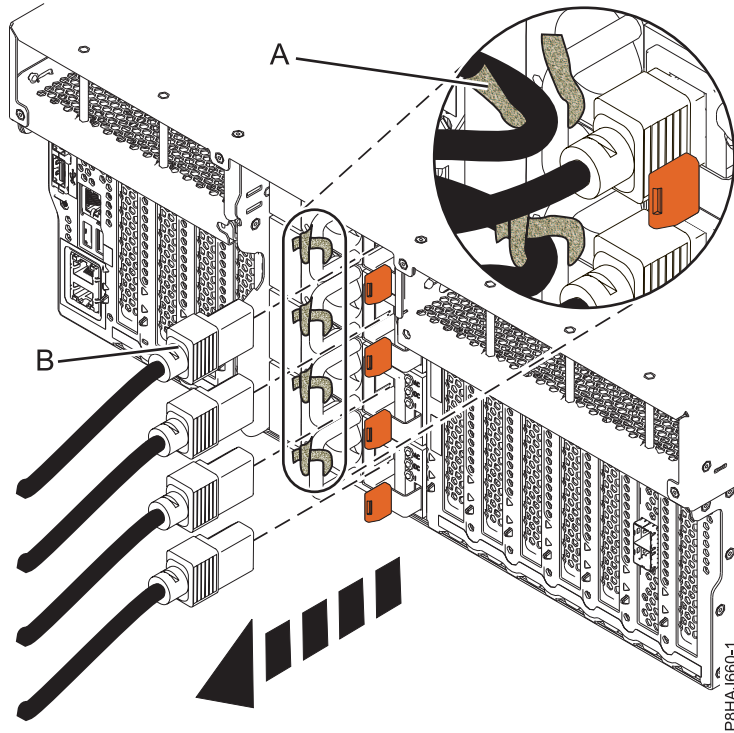
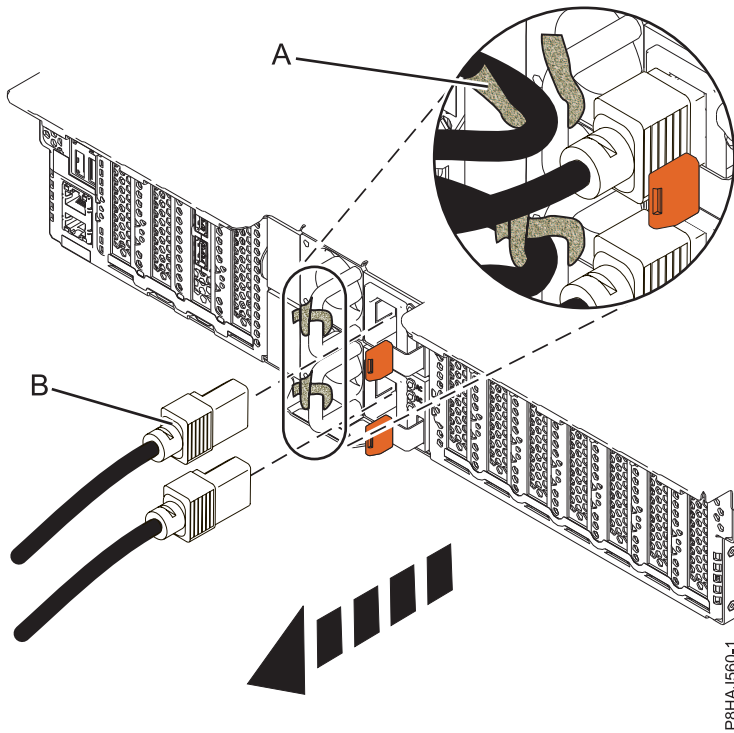
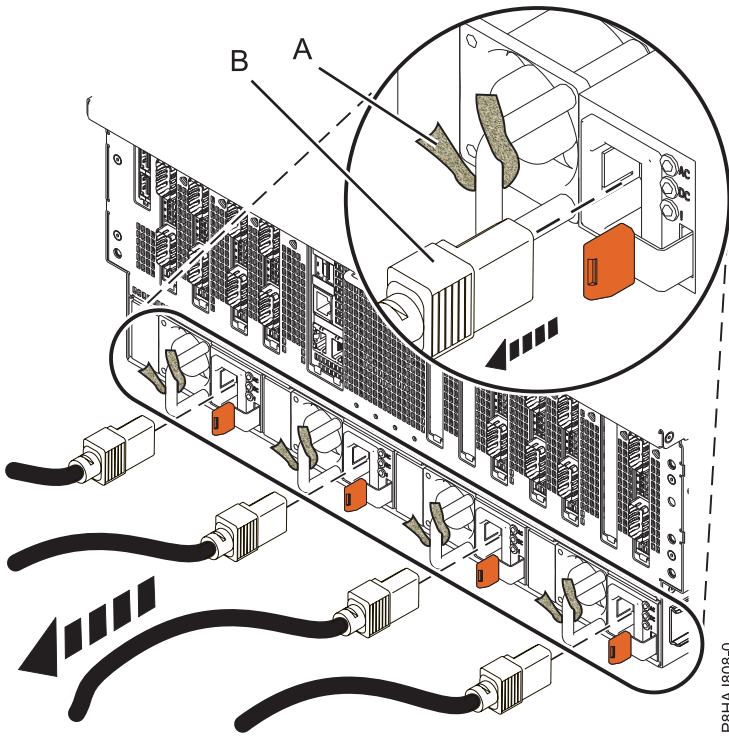

Figure 19. Removing the power cords from an 8247-42L, 8286-41A, or 8286-42A system
Figure 20. Removing the power cords from an 5148-21L, 5148-22L, 8247-21L, 8247-22L, 8284-21A, or 8284-22A system
Figure 21. Removing the power cords from an 8408-44E or 8408-E8E system
3. Disconnect the power cords (**B**) from the system unit. See Figure 19 on page 35, Figure 20 on page 35, or Figure 21 on page 36 or depending on the type of your system.